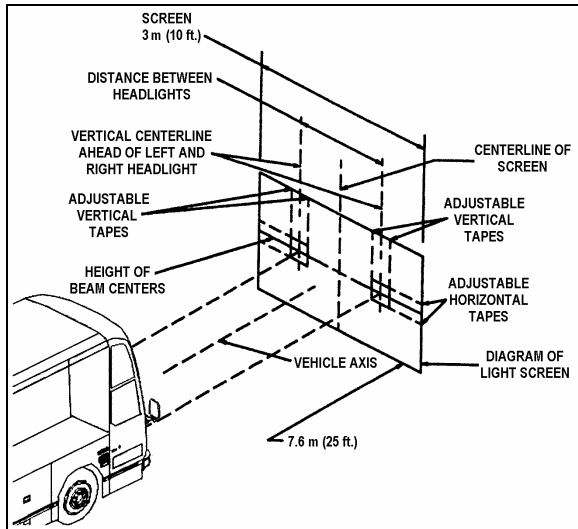

FIGURE 42: ALIGNMENT OF HEADLIGHT AIMING SCREEN 06502
3. The headlight centerlines shall be spaced either side of the fixed centerline on the screen by $\frac{1}{2}$ the lateral distance between the light source centers of the pertinent headlights. The horizontal tapes should be located on the screen at the upper and lower limits called for in the specification with reference to the height of beam centers and the plane on which the vehicle rests, not the floor on which the screen rests (Fig. 42).